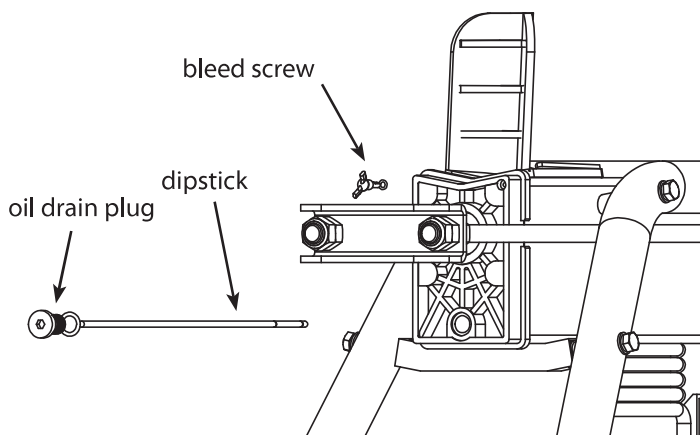

Figure 2
**BEFORE OPERATING THE LOG SPLITTER, THE BLEED SCREW SHOULD BE LOOSENED BY 3-4 ROTATIONS SO AIR CAN GO IN AND OUT OF THE OIL TANK SMOOTHLY. AIR FLOW THRU THE BLEED SCREW HOLE SHOULD BE DETECTABLE DURING LOG SPLITTER OPERATION. BEFORE MOVING THE LOG SPLITTER, MAKE SURE THE BLEED SCREW IS TIGHTENED TO AVOID OIL LEAKAGE FROM THIS POINT. (SEE FIGURE 2)**